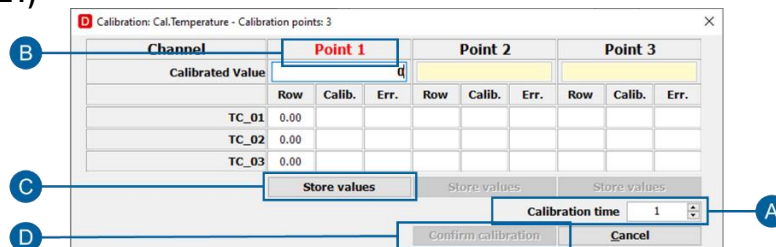

Figure 14 Performing the calibration
- Click on (B) "Add" to create a group of channels to be calibrated.
- Click on (C) to choose the number of points on which calibration can be performed.
- Select the channel to add, multiple channels can be selected at the same time (D).
- Click on (E) to add the channels to the created calibration group.
- Click on (F) to connect the system and enable the "Perform Calibration" button.
- Click on the "Perform Calibration" button (G), the pop-up where you can perform the calibration will open (Figure 14 page 21)